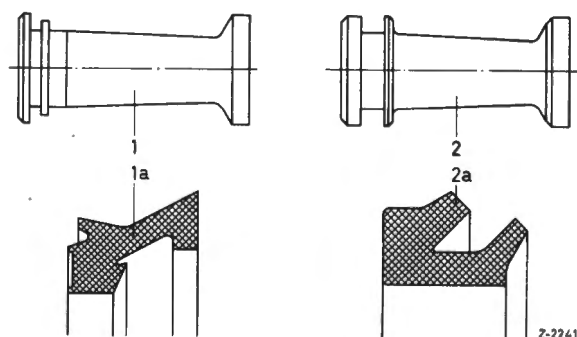

Fig. 42-3/6
14. Install a new primary cup (7) and the piston cup washer (8) in the cylinder (Fig. 42-3/5).
essary therefore to make sure that pistons of the new version (with wider groove) are never provided with a secondary cup. Pistons of the previous version cannot be used together with the new groove-ring cup because of the considerable difference in width (Fig. 42-3/6).
16. Install the piston stop washer (12) and the piston stop ring (11) (Fig. 42-3/5).